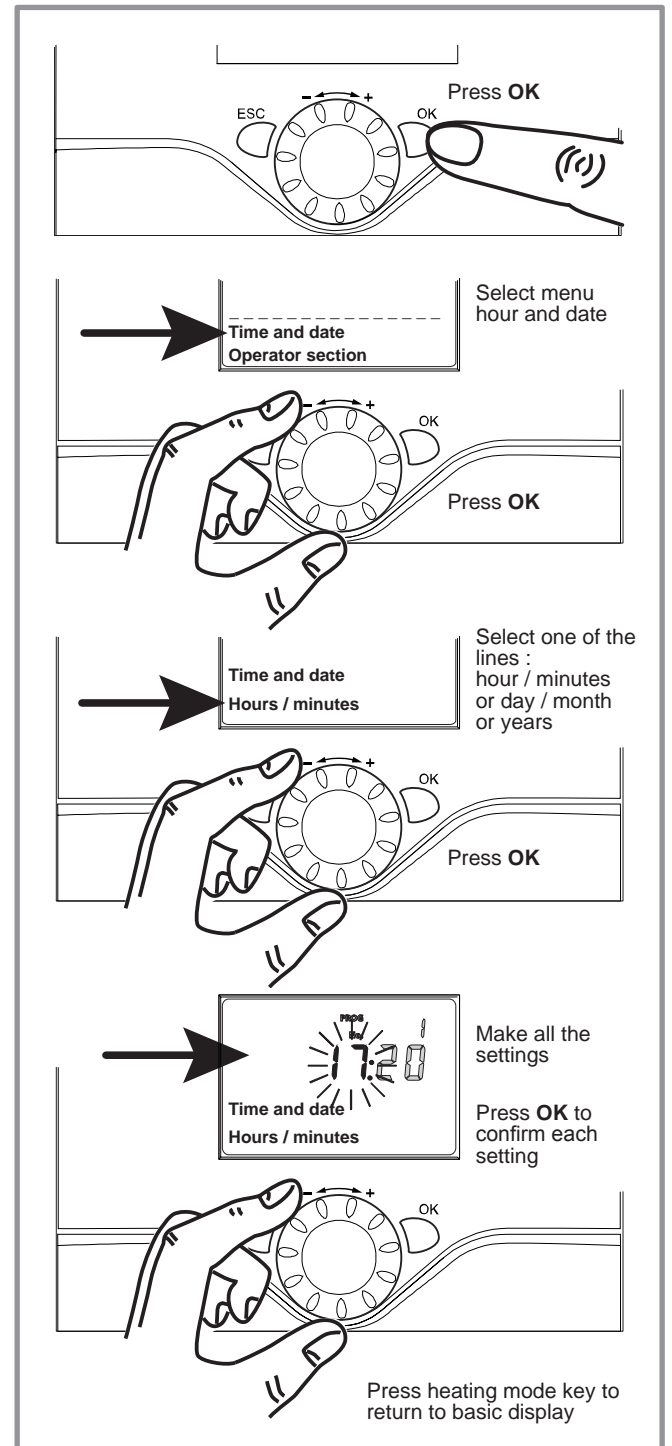

figure 6 - Setting the time and the date
- Adjust the date and time if necessary (figure 6).